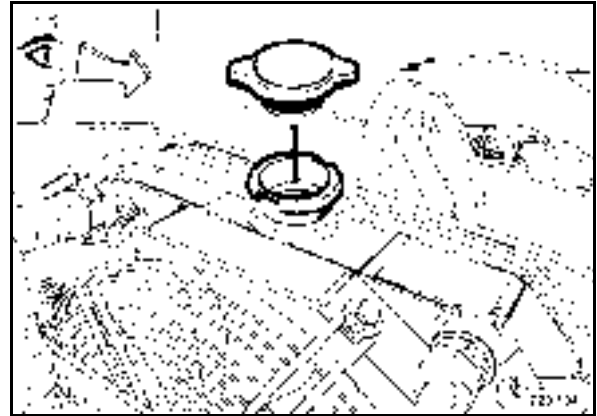

Fig. 132
- Fill in coolant until the level reaches the bottom edge of the radiator filler socket (Fig. 132).